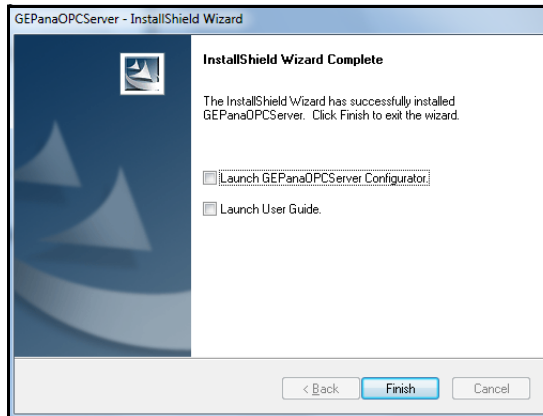

Figure 23: OPC Installation Completion
11. Uncheck both the options as shown in Figure 23 on the next page and click **Finish**.